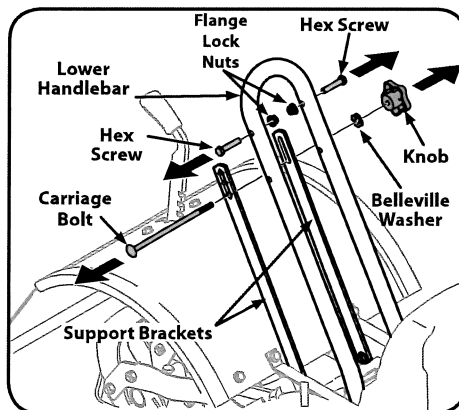

Figure 3-1
1. Remove two hex screws (5/16-18 x 1.50), two flange lock nuts (5/16-18), carriage bolt (5/16-18 x 6.75), belleville washer (.326 x .875 x .145) and knob (5/16-18) from the lower handlebar and support brackets. See Figure 3-1.